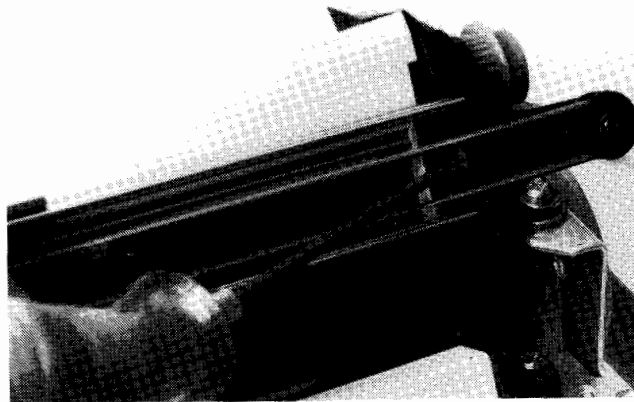

Figure 6-5. Adjusting Print-Head Drive Belt
- (1) Insert a $7/64$ -inch ballpoint hex screwdriver into the cap screw at the right side of the printer. (See figure 6-5.)
- (2) Turn the screwdriver clockwise $1/6$ of a revolution.
- (3) Repeat steps c and d.
- (4) If the belt is not yet too tight, repeat steps (1) through (3).